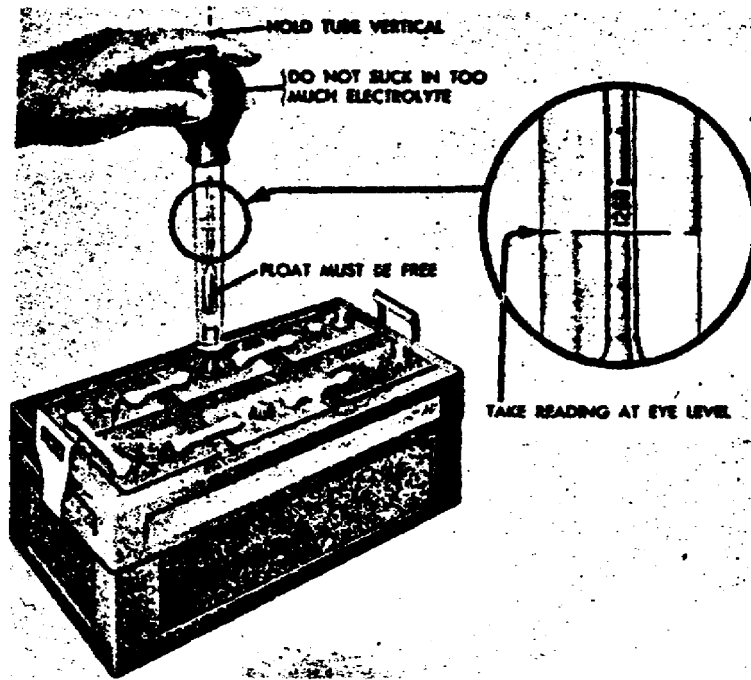

Figure 21. Testing the specific gravity of a battery.
c. To test the gravity of a battery cell squeeze the hydrometer bulb and insert the inlet tip into the electrolyte of a battery cell (fig 21). Hold the hydrometer in a vertical position and release the bulb to draw in just enough electrolyte so the float moves freely. To avoid wrong readings, the float should not touch the sides or the top and bottom end of the cylinder. Hold the hydrometer so the surface of the liquid is level with your eyes, then read the mark on the scale at this level. Always put the electrolyte back into the cell to prevent weakening the mixture. Test all cells in the battery in the same manner.